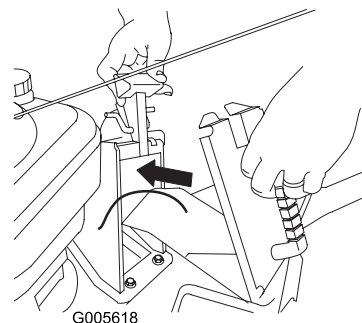

Figure 22
1. Open the discharge door by moving the discharge door handle rearward (Figure 22).
2. Hold the discharge door fully open and insert the plug (Figure 22).